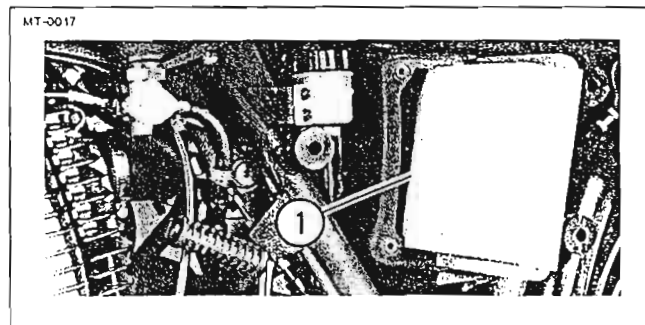

Figure 2-24. Removing Filter Element
2. See Figure 2-24. Remove U-channel and filter element (1). Removal is done most easily by pulling alternately on the top and bottom corners of the element. Clean airbox. Be sure that intake passages to underseat area are open. Inspect filter for dirt, tears, deterioration, or other damage. Element is not washable. Always replace a dirty or damaged element.